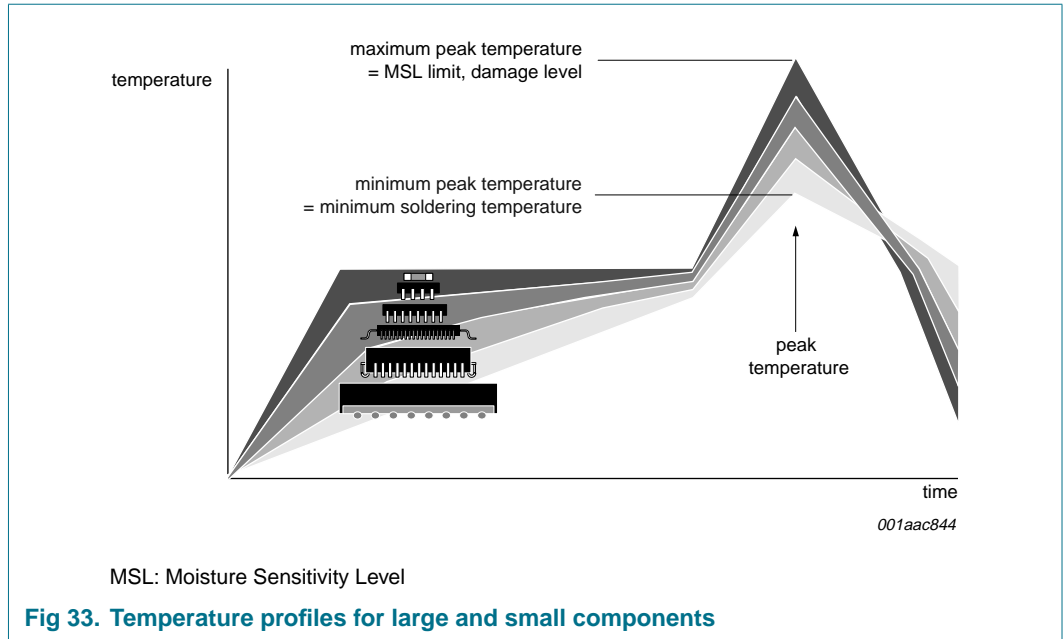

Fig 33. Temperature profiles for large and small components
- Lead-free versus SnPb soldering; note that a lead-free reflow process usually leads to higher minimum peak temperatures (see Figure 33) than a PbSn process, thus reducing the process window
Studies have shown that small packages reach higher temperatures during reflow soldering, see Figure 33.